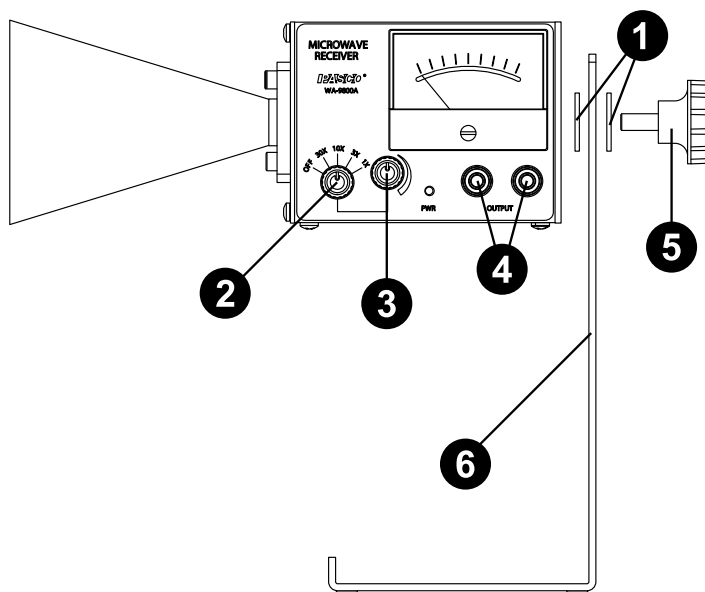

Figure 10: Attach the Microwave Receiver to the Mounting Stand.
2. Attach the Receiver to the Mounting Stand, as shown in Figure 10. Place one washer on each side of the stand.